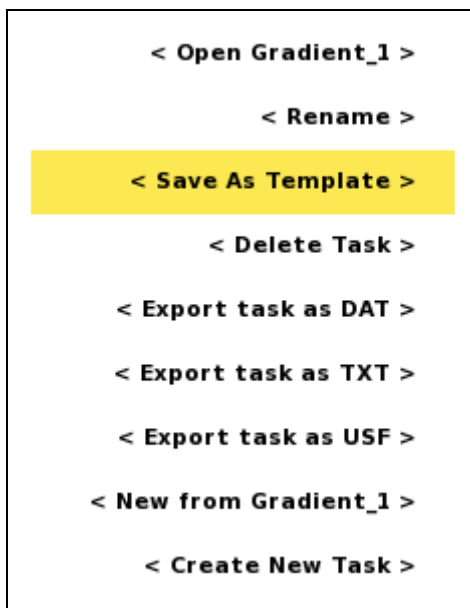

Figure 26. Task Option menu with the Save As Template item highlighted
- Move the highlight the <Save as template> item (Figure 26)